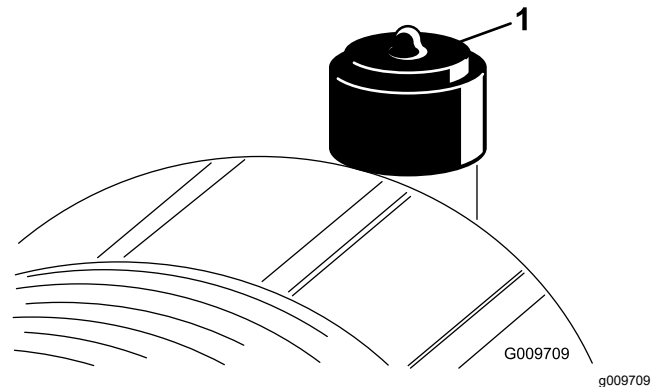

Figure 87
Service the air-cleaner filter only when the service indicator (Figure 87) requires it. Changing the air filter before it is necessary only increases the chance of dirt entering the engine when you remove the filter.
2. Reset the indicator (Figure 87) if it shows red.